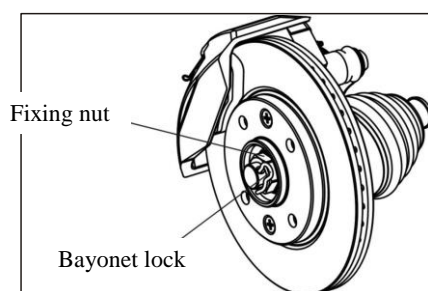

Figure 4-88 Fix Wheel Hub and Remove End Nut
- (4) As shown in Figure 4-88, hold the wheel hub, remove the drive shaft end nut retainer bayonet lock, and then screw off the end nut.